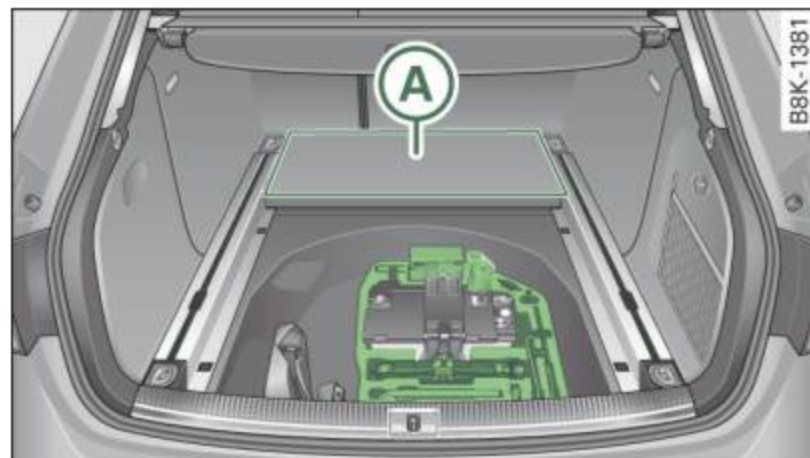

Fig. 226 Luggage compartment: tool kit
Depending on your vehicle's equipment, the tool kit may also be located under the cargo floor cover (A) ⇒ *fig. 226* behind the seat backrest.